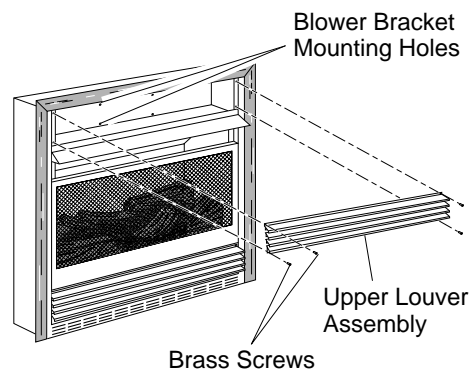
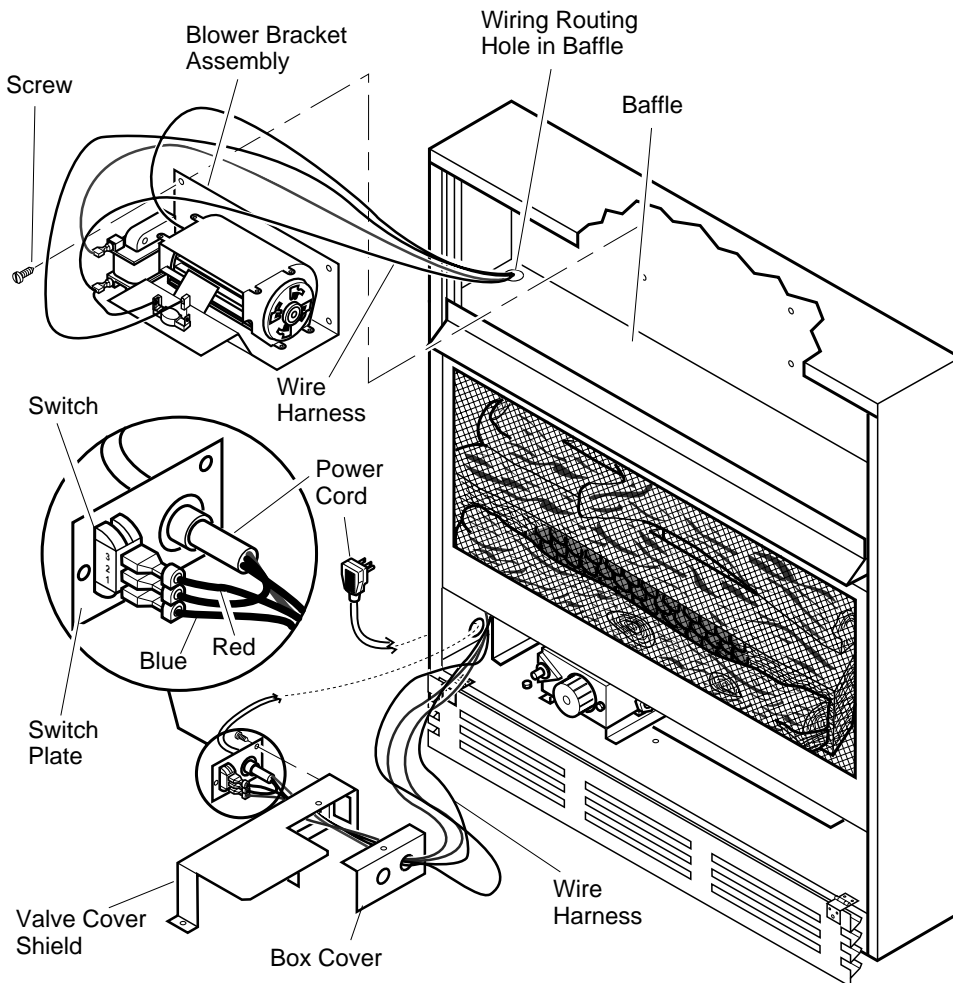
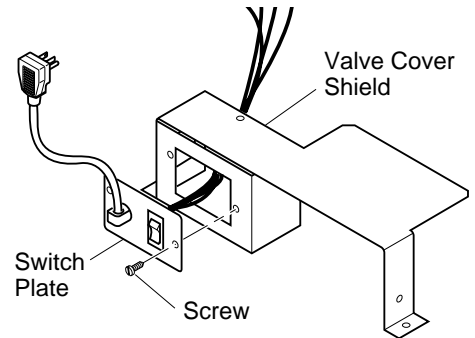
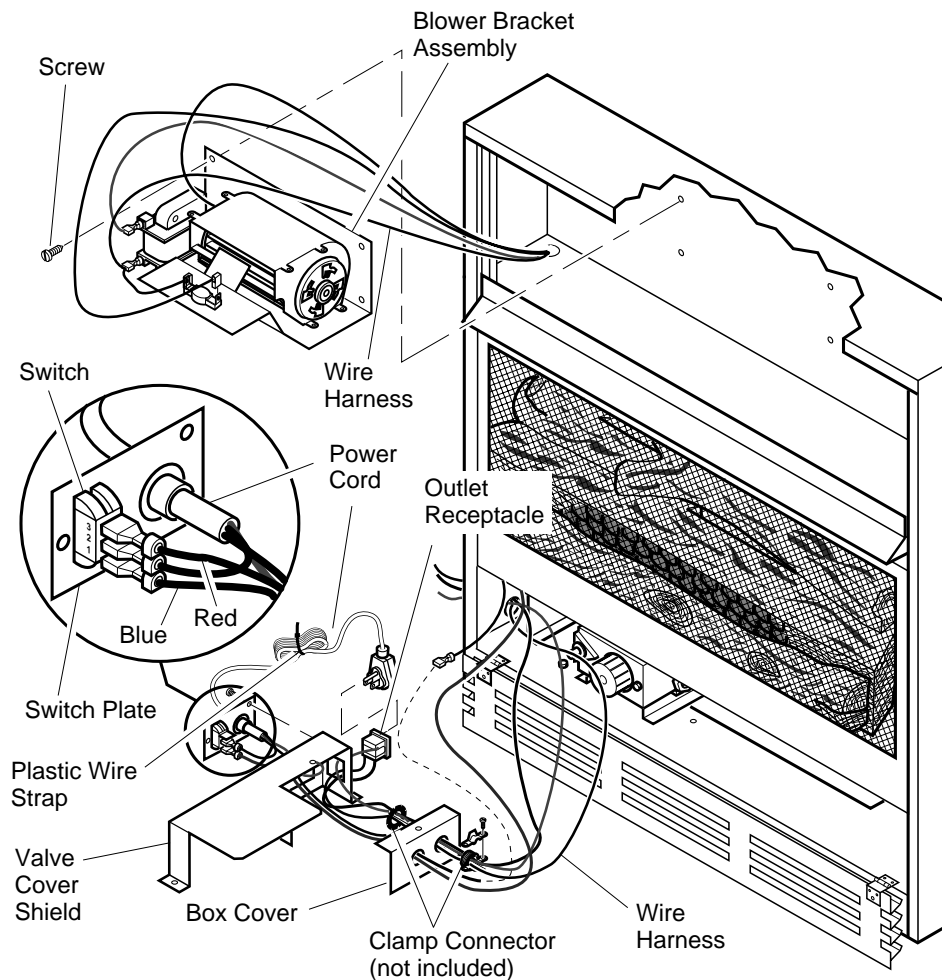

Figure 16 - Removing Upper Louver Assembly
Figure 18 - Installing Blower Bracket Assembly
Figure 19 - Installing Switch Plate to Valve Cover Shield
Figure 21 - Installing Blower Bracket Assembly
2. Remove 4 screws from louver assembly (see Figure 16). Save these screws.
3. Note the wire locations on back of AUTO/OFF/ON switch. The terminals on back of switch are numbered 1, 2, and 3. Carefully remove red wire from terminal 1 and blue wire from terminal 3. Black wire can remain on middle terminal 2 (see Figure 18, page 12).
5. In top of the heater cabinet, locate the four mounting holes on the outer casing. Align these four holes with those on the blower bracket assembly. Attach blower bracket assembly to the outer casing with 4 #10 screws provided (see Figure 18).
6. Route the wire harness through the hole in left side of baffle. Pull wire harness through lower opening above where the valve shield was removed. (see Figure 18).
7. Insert the 4 wire harness into one of the round holes in the rear of the valve cover shield and through the rectangular hole in the front of shield (see Figure 18).
9. Install the switch plate on the valve cover shield with 2 #10 screws provided (see Figure 19). Reinstall the valve cover shield. Route power cord out of the cabinet by inserting it through the bushing on the outer casing (see Figure 18). Plug fan kit into 120-Volt grounded power supply and test operation. **Note:** When switch is in the AUTO position, the fan will start after the heater has run for a few moments. The fan will continue to run for several moments after the heater has been turned off. When switch is in the ON position, the fan will run until turned to OFF. Reinstall upper louver assembly and hood if previously removed, (see Figure 16, page 11). Close lower louver door.
5. Plug power cord to the outlet receptacle (not provided) as shown in figure 19. Wind the extra cable in power cord and tie it up with the plastic wire strap (see Figure 21). Set the cable bundle between the burner bracket and outer casing, away from the burner.
8. Reinstall upper louver assembly and hood if previously removed, (see Figure 16, page 11). Close lower louver door.